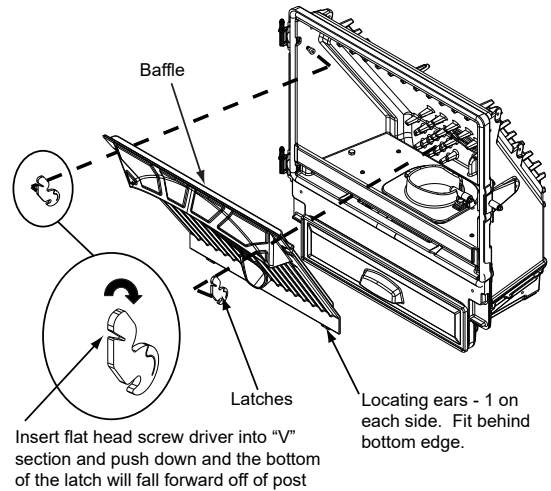

Figure 19.2
4. Remove baffle by placing a flat head screw driver into the slot of the latches located in the upper corners and rotate down. The bottom of the latch will fall forward off of the post. Lift the baffle up and then out toward you (Figure 19.2).